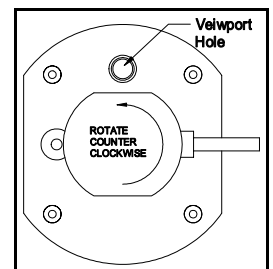

Figure 7
1. Rotate the Air+Health™ ballast assembly counter-clockwise until it stops. (See Figure 7)
6. Position the ballast assembly power cord 90° to the view port hole on the mounting base. (See Figure 7)